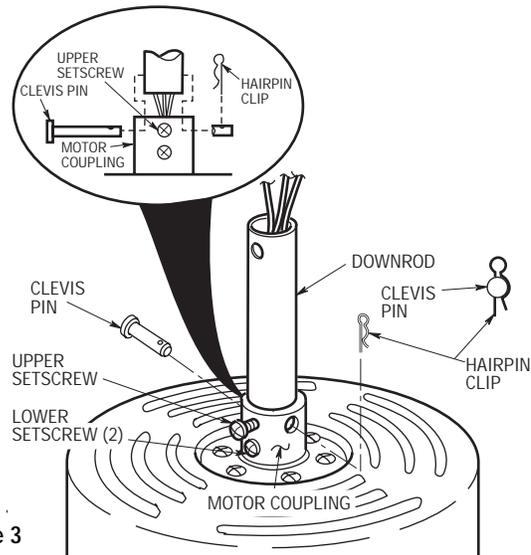

Figure 3
4. Separate, untwist and unkink the three 80" motor leads. Route the motor lead wires through the downrod. Remove the upper setscrew from the motor coupling. Align the clevis pin holes in the downrod with the holes in the motor coupling. Install the clevis pin and secure with the hairpin clip (Figure 3). The clevis pin must go through the holes in the motor coupling and the holes in the downrod. Be sure to push the straight leg of the hairpin clip through the hole near the end of the clevis pin until the curved portion of the hairpin clip snaps around the clevis pin. The hairpin clip must be properly installed to prevent the clevis pin from working loose. Pull on the downrod to make sure the clevis pin is properly installed. Reinstall the upper setscrew in the motor coupling (Figure 3). Check that the two lower setscrews are tightened securely.